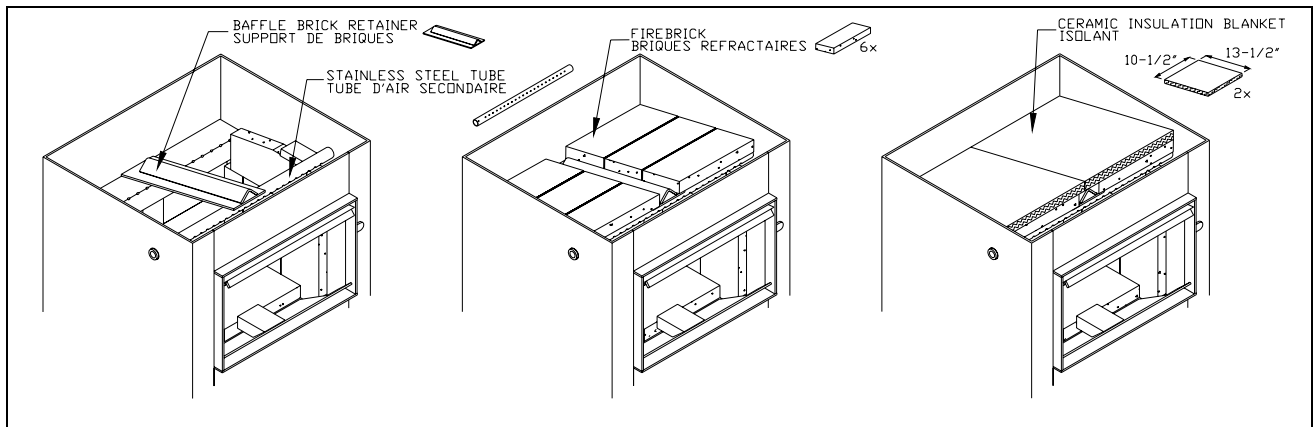

FIGURE 2
- 1- The ceramic insulation should be installed in place before the baffle bricks. Place the first piece of ceramic insulation up inside the top of the firebox and place one side over the baffle brick retainer so that the 13.5" (343mm) length goes from front to back and the 10.5" (267mm) length goes from side to side as shown in Figure 2. The ceramic blanket should lie over the stainless steel tube, over one side of the brick retainer and rest on the firebrick sides. The second piece of insulation should be laid on the opposite side of the baffle brick retainer, over the stainless steel tube and over the firebrick, directly beside the first piece of ceramic insulation without overlapping as shown in Figure 2.